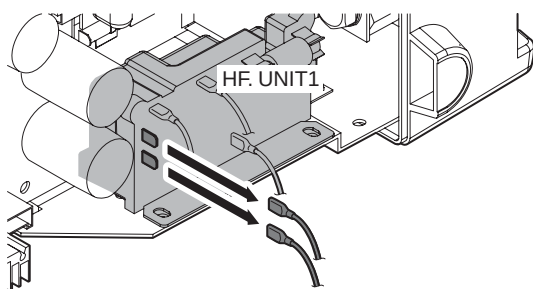

Figure 11-18: Removal and installation
- 1) When in HF TIG mode, the unit will generate high voltage. To prevent personal harm and test equipment damage, mark and then remove the indicated wire from the HF UNIT1 shown in Figure 11-18. To prevent electric shock, always wrap the removed wire with electrical tape or other suitable insulation.